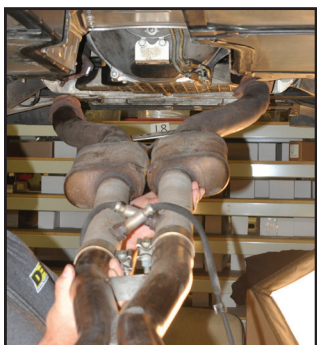

Fig 1
STEP 2. Remove exhaust center section per factory service manual. **Fig 1**